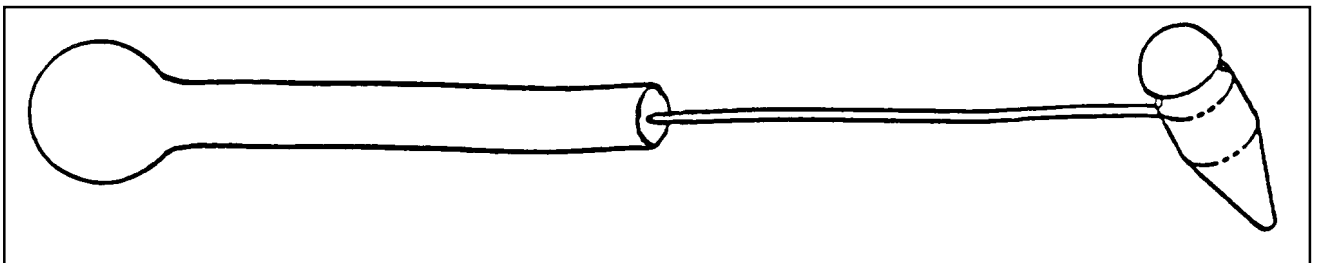

FIGURE 5-22. Sample of special tap hammer.
**a. The tap testing procedure** consists of lightly tapping the surface of the part with a coin, light special hammer with a maximum of 2 ounces (see figure 5-22), or any other suitable object. The acoustic response is compared with that of a known good area.